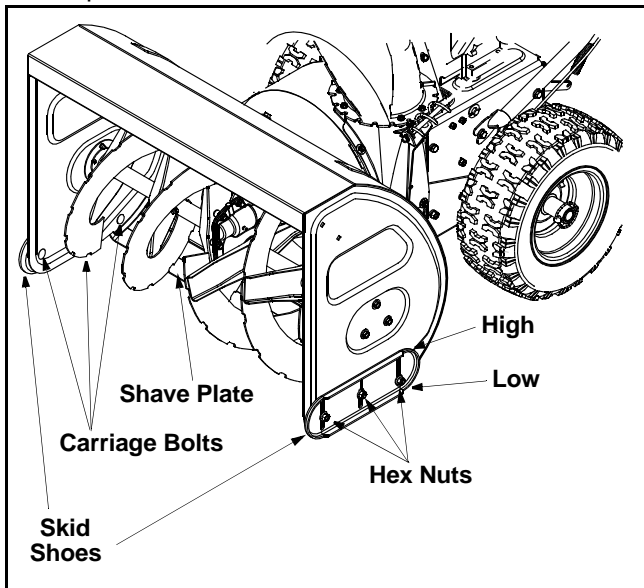

Figure 11
For close snow removal, as when using on a smooth concrete or asphalt driveway, place the skid shoes in the low position. Use the middle or high position when the area to be cleared is uneven. When operating on gravel, always put skid shoes in the high position. See Figure 11. Adjust skid shoes as follows:
- Remove the six carriage bolts, belleville washers and hex nuts which attach two skid shoes to the snow thrower on two sides. See Figure 11.